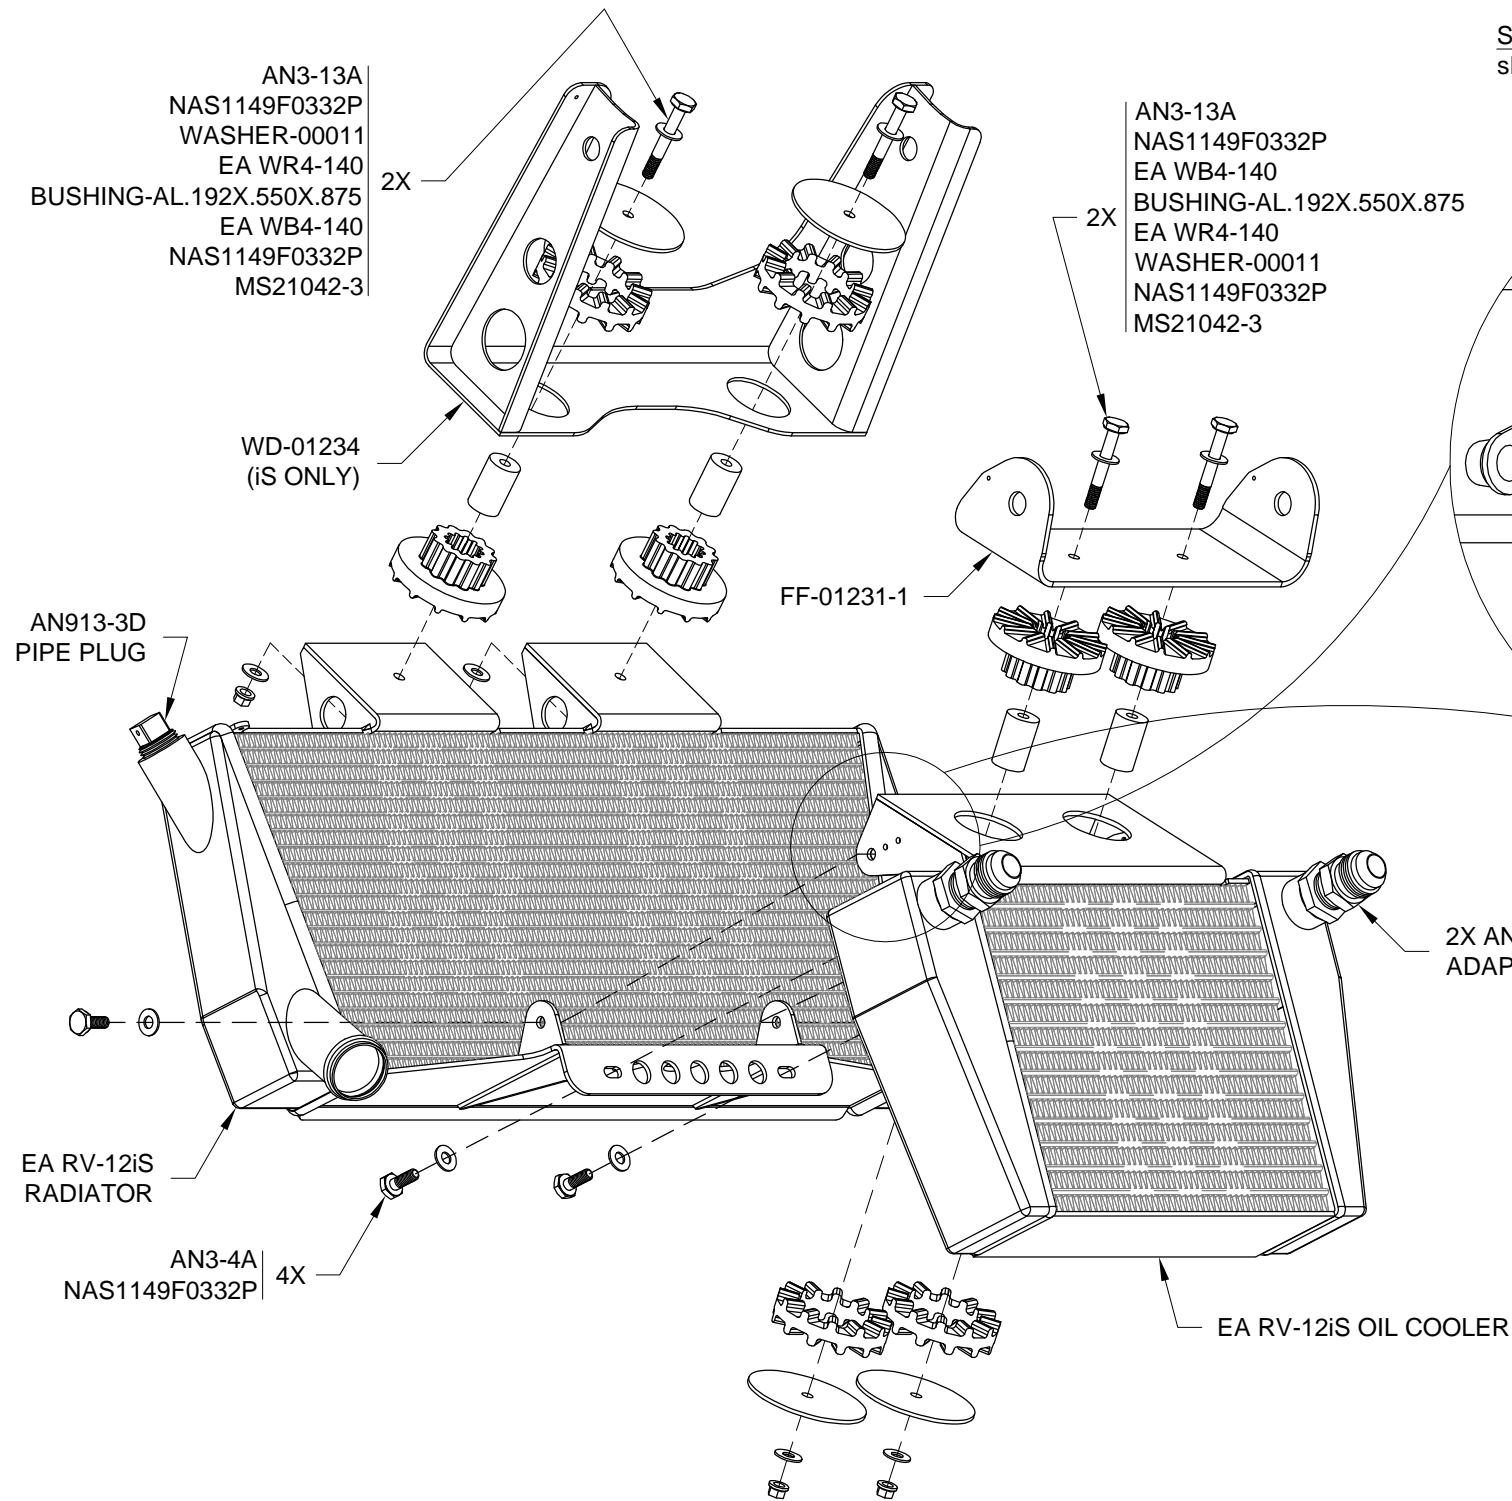

FIGURE 1: RADIATOR & OIL COOLER ASSEMBLY
Step 6: Attach the FF-01231-1 to the EA RV-12iS OIL COOLER as shown in Figure 1.
Step 7: Attach the EA RV-12iS OIL COOLER to the EA RV-12iS RADIATOR to create the Radiator and Oil Cooler Assembly as shown in Figure 1.